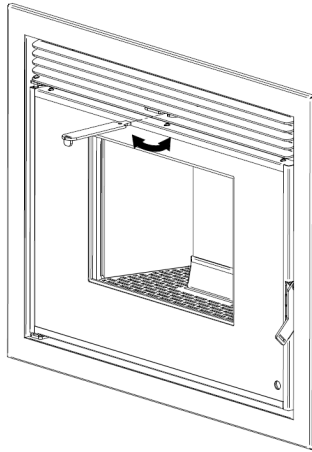

Figure 20 - Equipment installation
- The amount of air flowing to the front of the equipment and that flows through the tubes to channel the hot air can be adjusted using the accessory to open the door and the safety latches. Put the back part of the accessory between the grate in its central part as shown in Figure 20, you can check that there is a piece that fits perfectly and is able to rotate and move a deflector that causes the air to be directed towards the Front